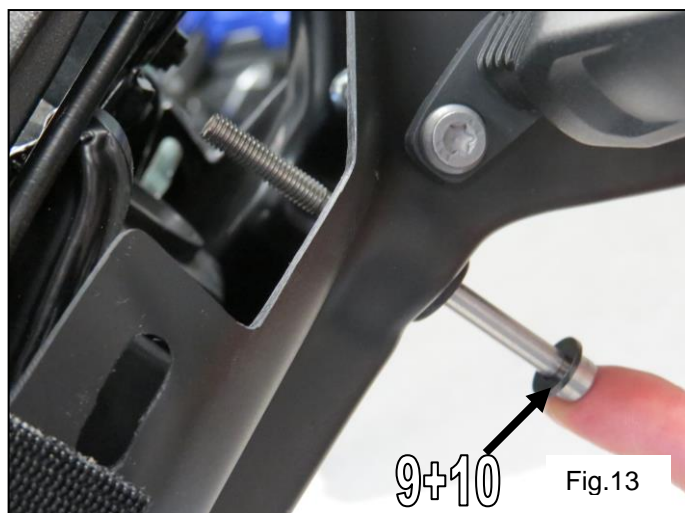
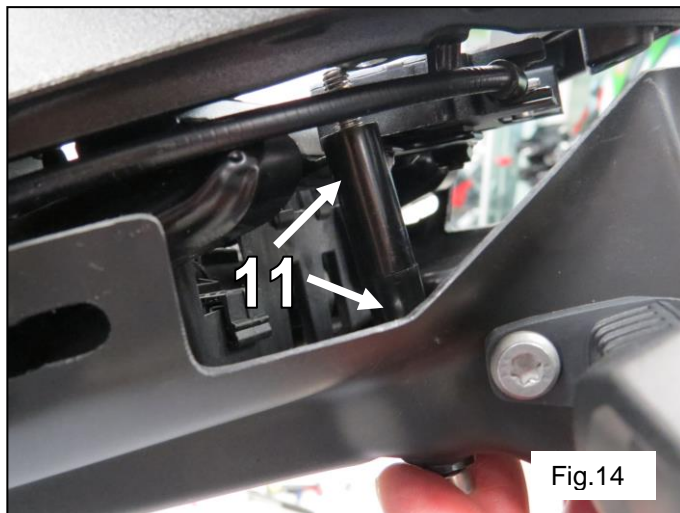

Fig.13
Fig.14
12. Secure assembly to bike using 2 M6x85 screw (9) and M6 black washer (10) as shown in Fig. 13 with 2 30 mm long spacers (11) on screws between plastic and sub frame as shown in Fig. 14. Fit M6 flange nuts (4) to screw thread inside bike as shown in Fig. 15.